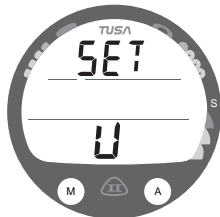

Fig. 25 - SET U (Utilities)
- > Depressing the A and S buttons simultaneously for 6 seconds while the NORM (or GAUG) Surface Main screen is displayed, will access the Set U screen (Fig. 25).